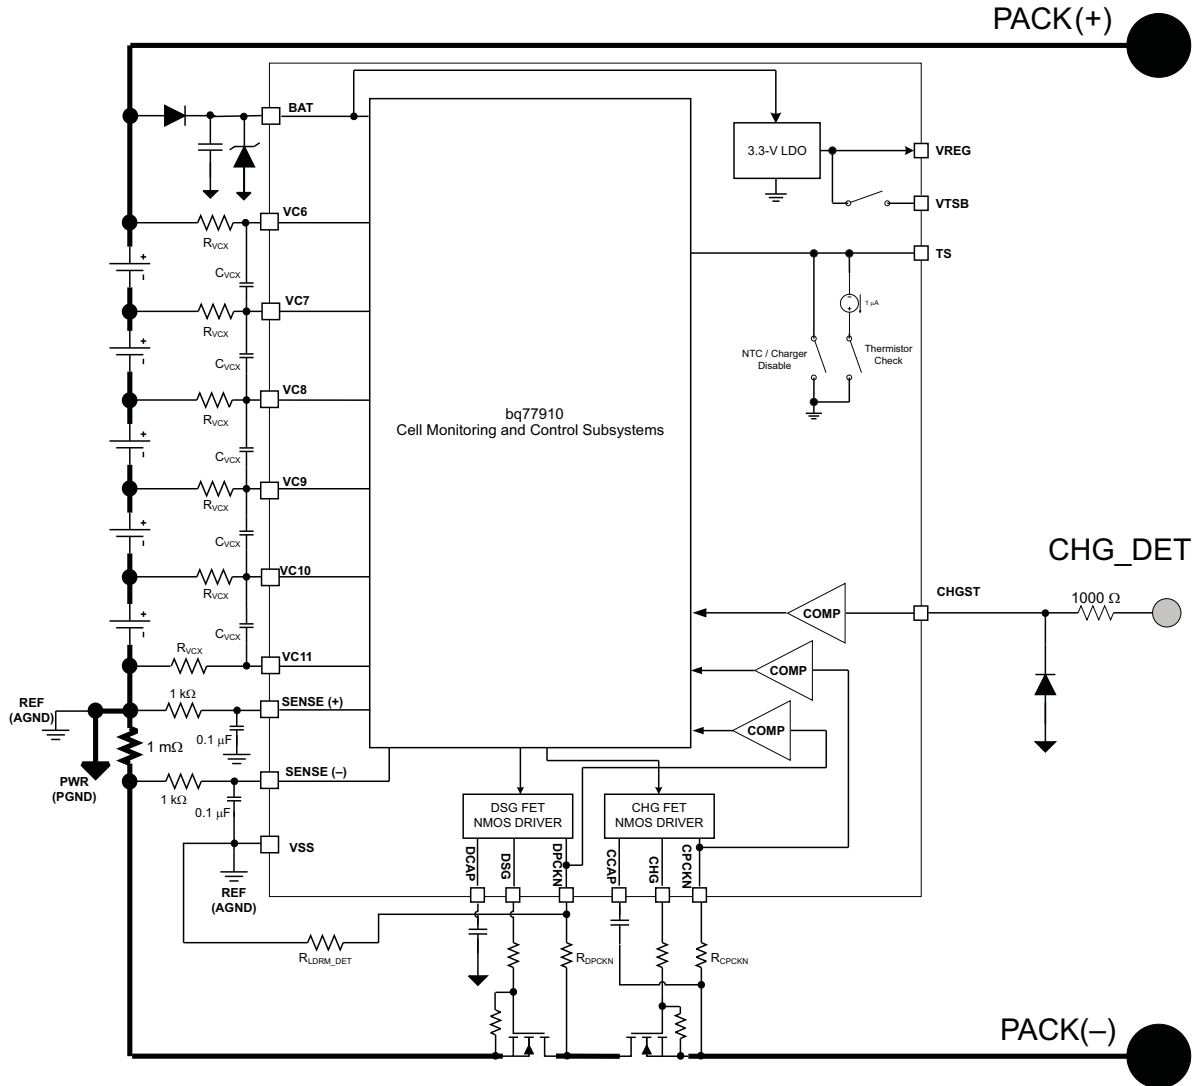

Figure 2. Example 5-Cell, Series FET Configuration Schematic Using bq77910
The BAT pin is used to power the IC internal circuitry, and should be supplied through a diode and held up with a capacitor(1) placed near the IC as shown in the application diagrams (see Figure 2 CELL BALANCING FUNCTION). The external diode prevents discharge of the IC power rail during external transients on the PACK(+) node.